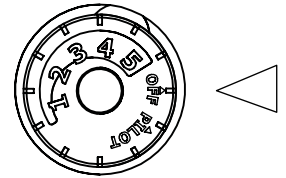

Fig. 25 - Control Knob
2. Turn control knob clockwise  to the "OFF" position (See Fig. 25).
3. Wait five (5) minutes to clear out any gas. Then smell for gas, including near the floor. If you smell gas, STOP! Follow "B" in the safety information above. If you don't smell gas, go to the next step.
6. Keep control knob depressed for (30) seconds after pilot lights. Release control knob.
- If pilot goes out repeat steps 3 through 7. Wait (1) minute before attempting to light pilot again. If after several tries the pilot still goes out, turn the gas control knob clockwise  to the "OFF" position and call a qualified service technician.